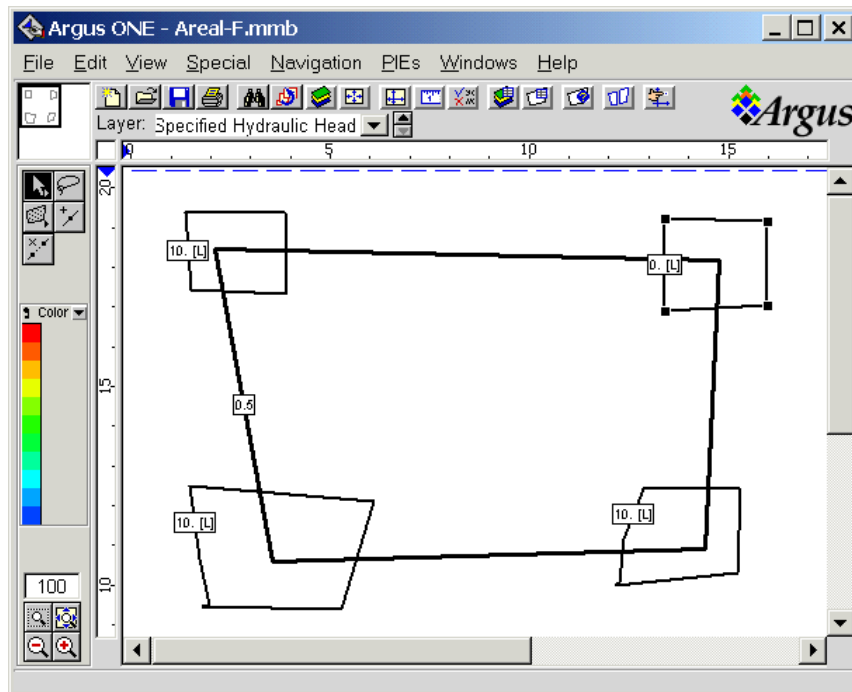

Figure 21. Model boundary in areal ground-water-flow step-by-step example.
11. Draw a model boundary by first activating the *Domain-Outline-drawing tool* . Then move the cursor into the white workspace and click in the center of one of the lakes. Proceeding around the workspace, click at the center of each lake. Try to create a domain outline that looks like the one shown in figure 21. Then, double-click at the center of the last lake to close the model domain contour.
12. The *Contour Information* dialog box appears. In it, specify the desired typical size of finite elements to be created by the mesh generator is specified. Type 0.5 in the space below the label, *Value*. This sets the desired width of an element to 0.5 in the units shown in the rulers around the periphery of the workspace. The result should look similar to the model boundary shown in figure 21. Click *OK* to exit the dialog box.